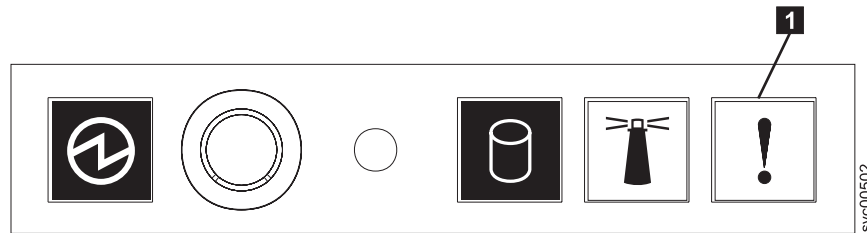

Figure 95. SAN Volume Controller 2145-8A4 operator-information panel
1. **Is the Error LED, shown in Figure 95, on the SAN Volume Controller 2145-8A4 operator-information panel on or flashing?**